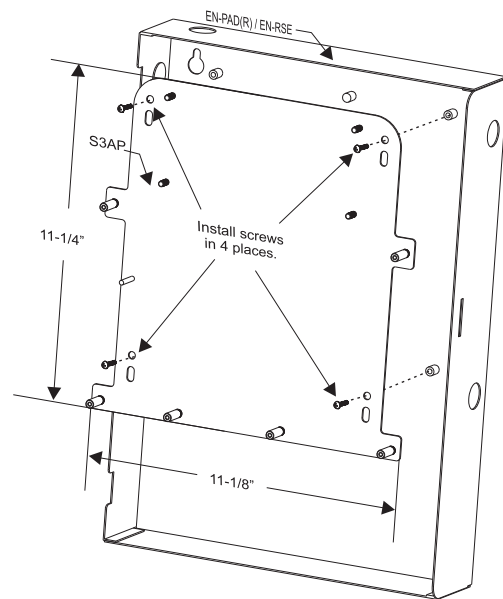

Figure 1
4. Place the S3AP adapter plate over the studs in the enclosure. Using 4 of the 6 screws that were removed, tighten the screws to the upper and lower left and right studs in the EN-PAD(R) or EN-RSE enclosure as shown in Figure 1.